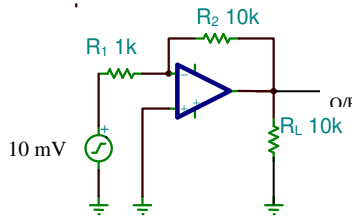

Fig. 4b Inverting amplifier
3. Make the inverting amplifier circuit as shown in Fig 4b. Feed the ac signal 10mv peak, 1KHz and record the output signal amplitude and phase. Repeat the measurements for Triangular waveform of 10mV peak, 1KHz. Change the value of R_1 to 10K and repeat the measurements for Sinusoidal wave.